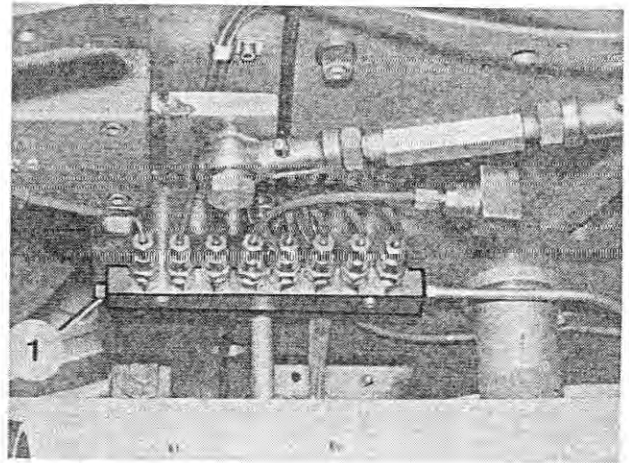

Fig. 80
6. Vent the central lubricating system. To do so, loosen the vent plug (Figure 80/1) which is farthest away from the lubricating pump a few turns and actuate the lubricating pump until the air has escaped.